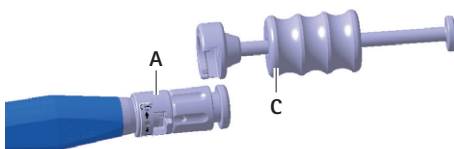

Fig. 5 Mounting the impact cylinder onto the insertion instrument
- Mounting the impact cylinder **C** onto the insertion instrument **A**, see Fig. 5.
- ▶ Mounting the impact cylinder **B** onto the insertion instrument **A**, see Fig. 5.